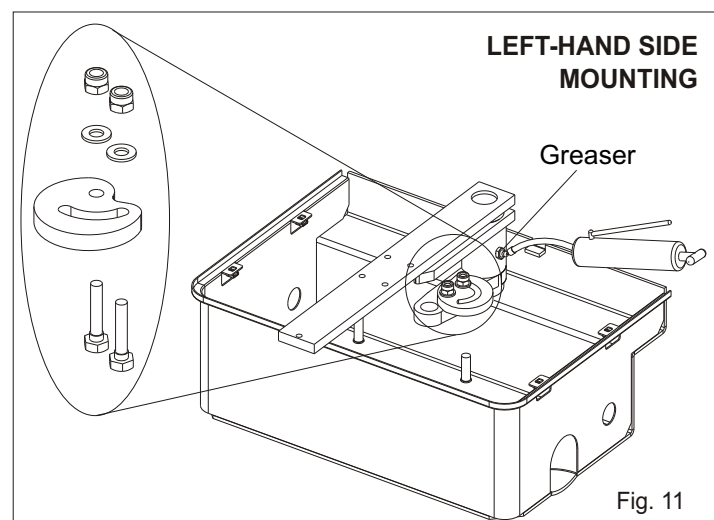
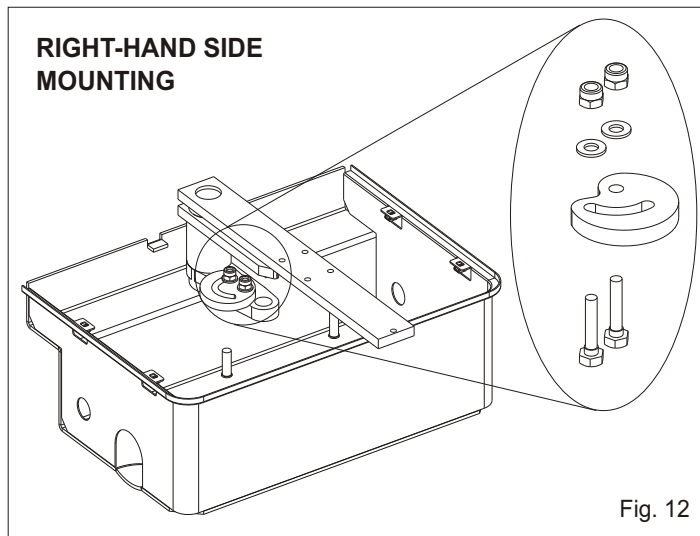

Fig. 11
Fig. 12
2.7. Insert the cam of the limit switch into the handle bar and fix it with the special screws (left-hand side mounting Fig. 11, right-hand side mounting Fig. 12)
**When putting in function the installation it is peremptory to lubricate the box as in Fig. 11 until the grease comes out. (Use grease type DIN 51502 KP 2 N-20 - K 2 K-20).**